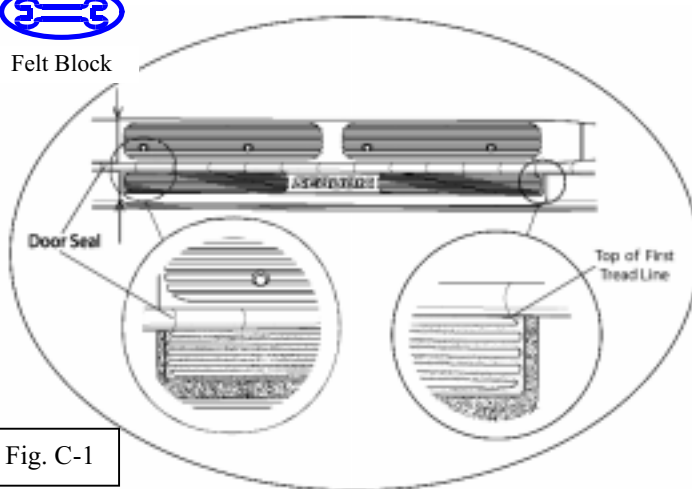

Fig. C-1
2. Hold applique taut from each end and carefully work under door seal. Align front edge of applique with front of scuff plate and top of first tread line visually directly below outer edge of door seal. (Fig. C-1)